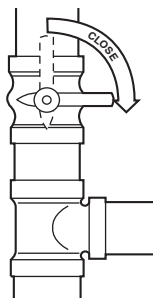

Fig. 5 – Close Valve
2. Close the external manual gas valve. See Fig. 5.